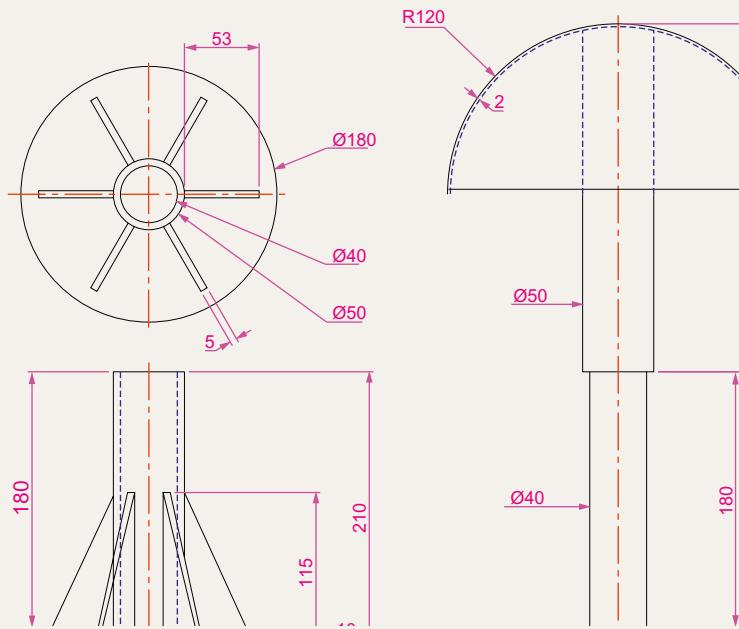

Fig. 14.38 Exercise 3 – orthographic projections
- Working to the dimensions given in the two orthographic projections (Fig. 14.38), and working on two layers of different colours, construct an assembled 3D model of the one part inside the other.